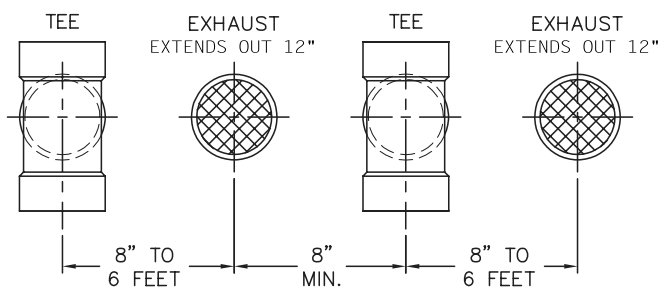

Fig. 4.2 Multiple Vent Spacing*
- c. When venting with a two pipe system, maximum distance between air intake and exhaust vent is 6 feet (1.8 m). Minimum distance between exhaust vent and air intake on single boiler is 8" (0.2 m) center-to-center. Minimum distance between vents and intakes on multiple boilers is 8" (0.2 m) center-to-center. See Figure 4.2.